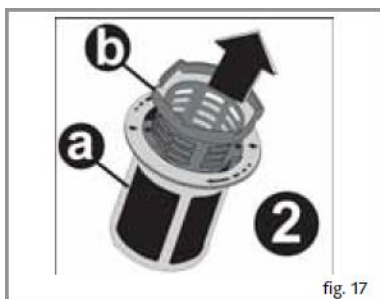

fig. 17
3. Remove the coarse filter from the microfilter (figure 17).